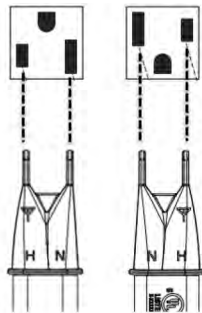

Fig. 2
- Insert the tips as shown in Fig. 2, such that the tips are completely engaged in the receptacle, to ensure the absence of an AC voltage on the Neutral side of the outlet.